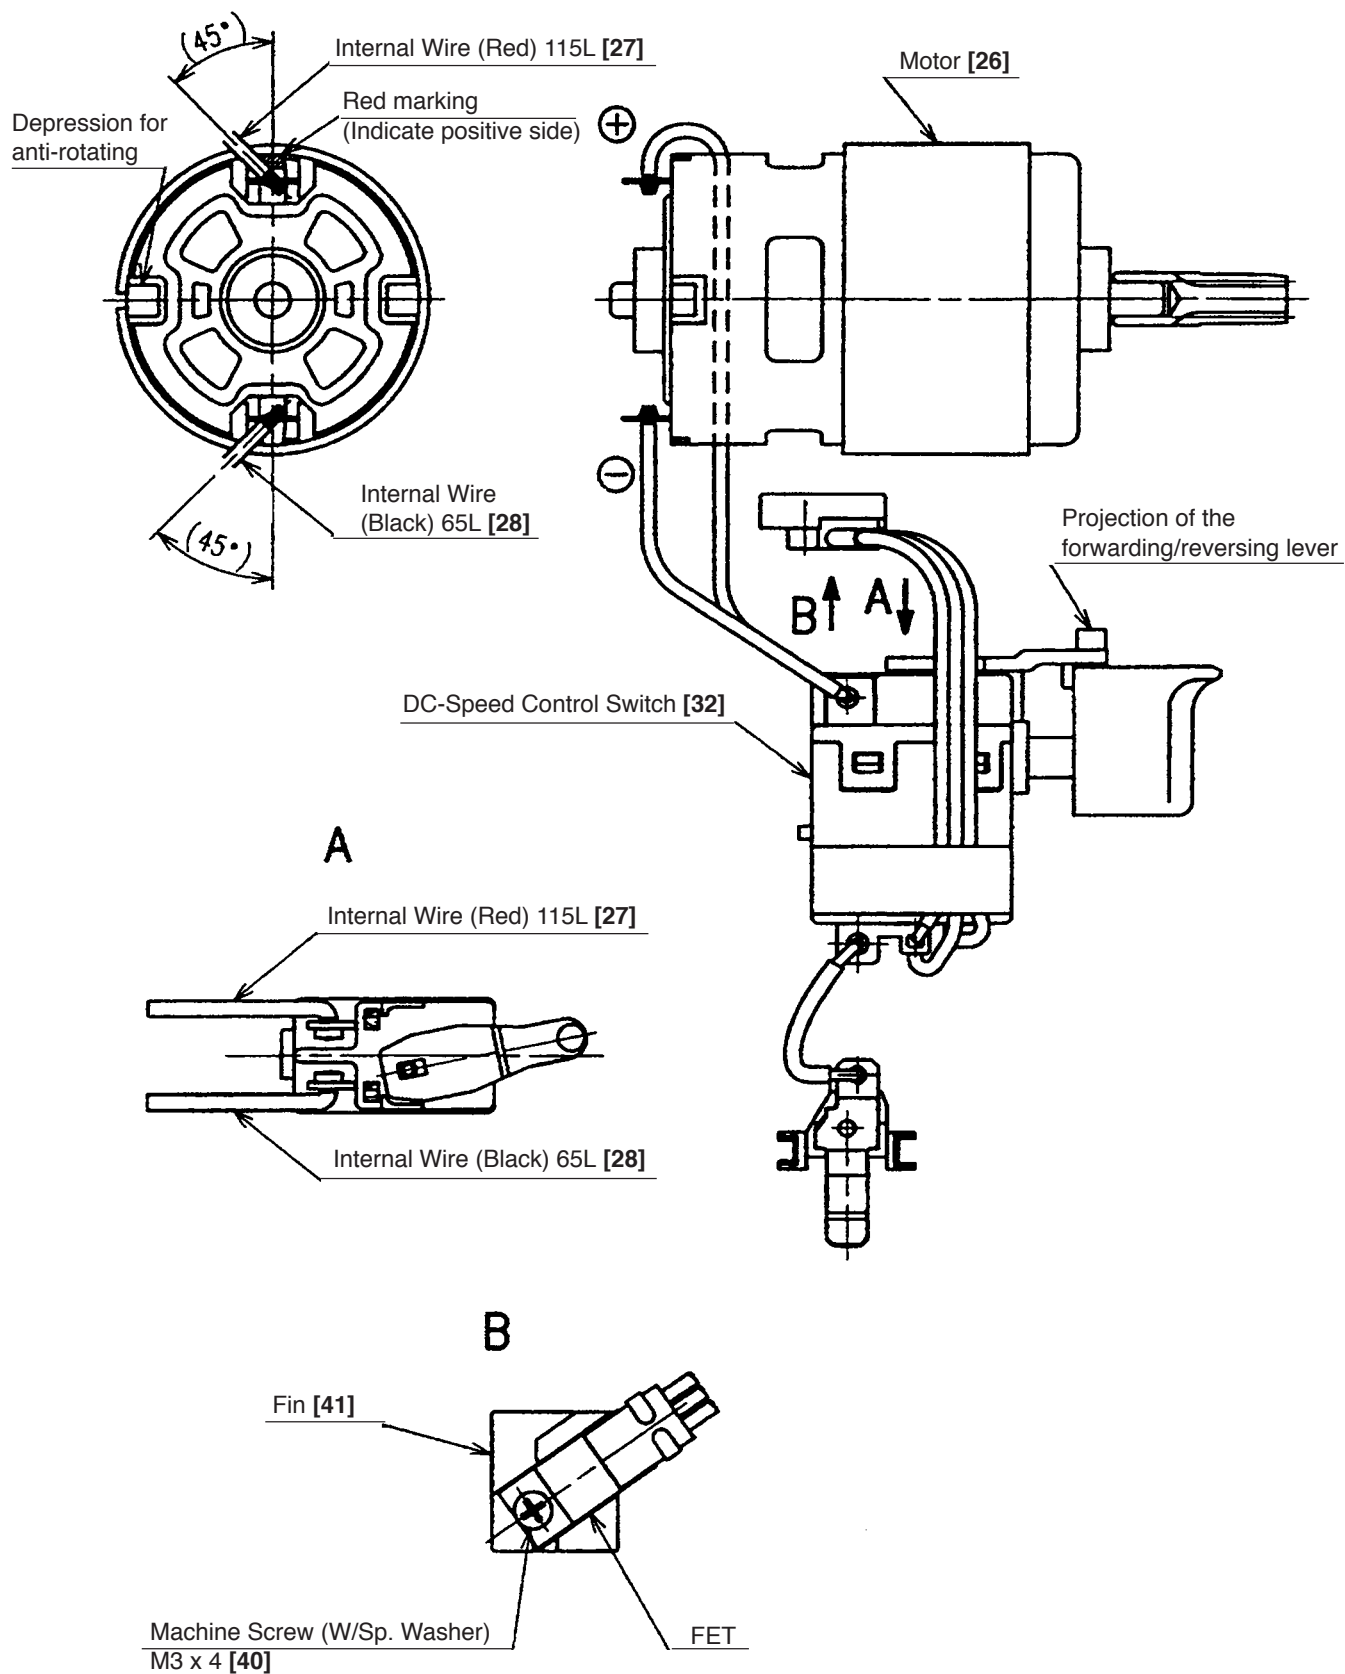

Fig. 10
(1) Reassembly of housing (A) assembly
- (a) Be sure to follow the wiring diagram (Fig. 10) for proper wiring.
- (c) When mounting the Motor [26] into housing (A), pay attention to the position of the Internal Wire (Red) 115L [27] and the depression for preventing motor body from rotating in housing (A).